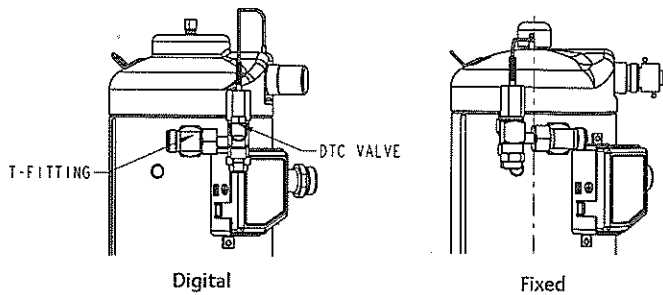
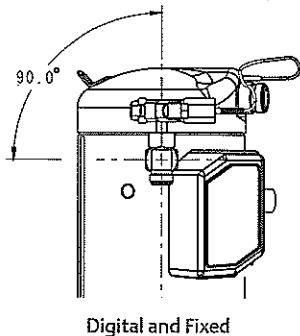

Figure 3. DTC valve installation for small T-box models
Figure 4. DTC valve installation for large T-box models
- a. Put *seal-rotalock* into the *T-fitting* slot, and thread the *DTC valve* onto the *T-fitting*. Please see the assembly in figure 3 for small T-box models and figure 4 for large T-box models.